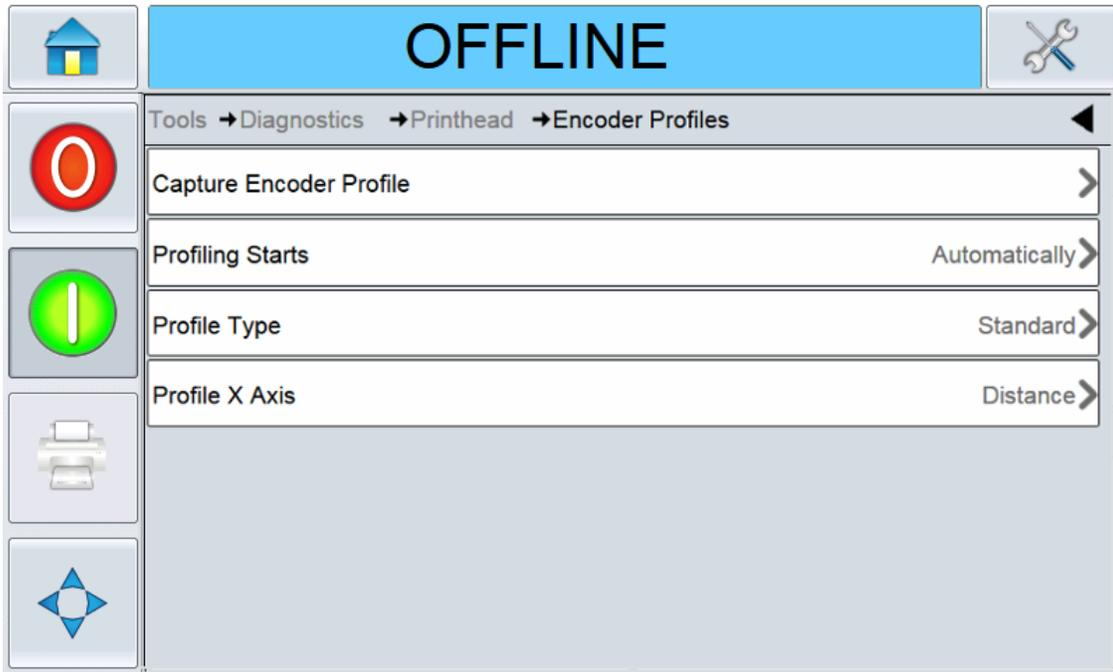

Figure 5-15: Encoder Profiles Screen
1. Touch Encoder Profiles on the Printhead screen to access the Encoder Profiles parameters (Figure 5-15).